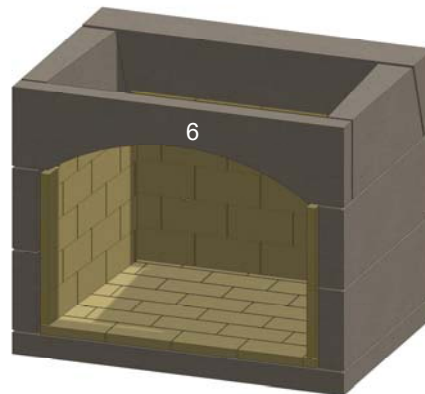

Figure 17. Front Lintel
K. Install the front lintel piece, (6). See Figure 17.